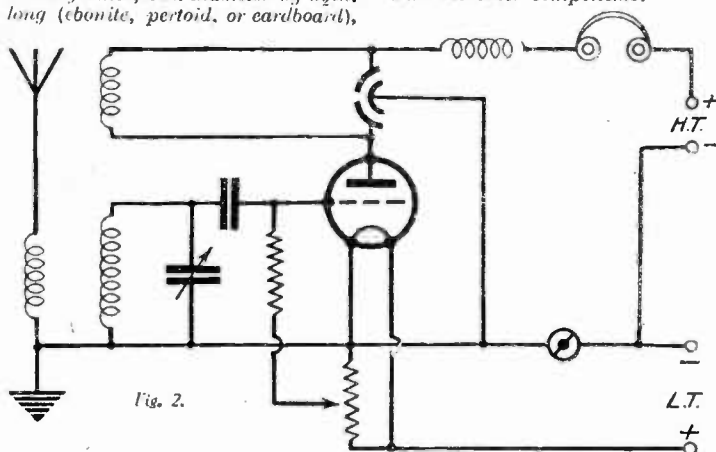
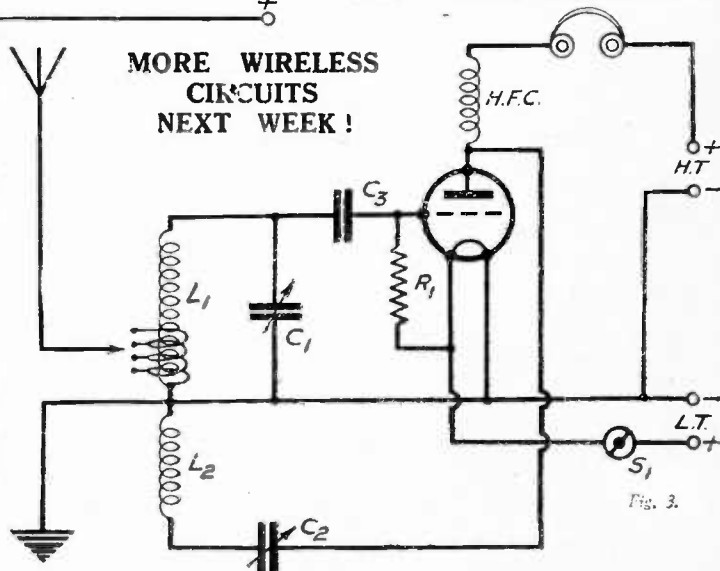

Fig. 2.
Fig. 3.
**FIG. 2.**—The sketch above shows a simple type of one-valver, with differential reaction control. It is so designed that it may be used for reception on all wavelengths from 20 metres up to 2,000. The components necessary are: 1 panel 12in. by 7in., 1 baseboard 13in. by 9in., 1 .0005 variable condenser with dials, 1 .0002 differential reaction condenser, 1 .0003 fixed condenser, 1 2-megohm grid leak and holder, 1 on-off switch, 1 valve-holder, 3 coil-holders, 1 400 ohms potentiometer, 1 H.F. choke, 4 terminals, 1 4-way battery cord. In order that you may use the set on all wavelengths you will require a complete set of coils Nos. 35, 50, 60, 75, 100, 150 and 250. For the long-wave stations the central coil is a No. 250, and the left and right hand respectively 100 and 150. For the short waves the coils are Nos. 2, 4, 6, 8 and 10, which will cover the band from about 20 to 100 metres, whilst Nos. 15 to 20, in conjunction with the smaller sizes of the broadcast band, will enable you to cover the gap from 100 metres up to the broadcast band.
**FIG. 3.**—The sketch below is a one-valve circuit employing home-made coils. The construction of the coil is similar to that of Fig. 2, shown on page 598 of March 12th issue, with an additional winding of No. 30 D.C.C. wire wound on about ¼in. below the carthel end of the primary and secondary coils; the end nearest this junction is also carthel. In other respects the arrangement is similar to Fig. 3, shown on page 598 of the March 12th issue. The list of components necessary are .0005 mfd. variable condenser (C1), .0003 mfd. variable condenser (C2), .0002 mfd. fixed condenser (C3), 1 H.F. choke, 1 2-megohm grid leak and holder (R1), valve-holder, on-and-off switch (S1), coil, as mentioned in above notes, terminals, connecting wire, and screws.
Figs. 3 and 4.—Details of the mechanism.